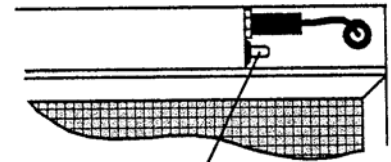

Figure 3
2. Check the power indicator light and the wiring connection on the back of the unit – Figure 3